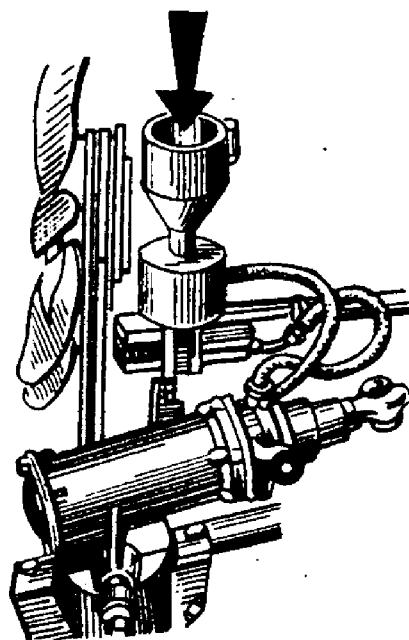

FIG.19. LUBRICATING POINT FOR "P" OIL USED IN AUTOMOTIVE HYDRAULIC SYSTEMS (SUBSTITUTE IS TURBINE OIL 22 OR INDUSTRIAL OIL 20)
49. Check the oil level in the hydraulic steering booster tank (Fig.19) and top up, if needed, with oil, grade P, TY-38-1-110-67 used for the truck hydraulic systems. A substitute is turbine oil 22, GOST 32-53 or industrial oil, grade 20 (spindle oil 3), GOST 1707-51.